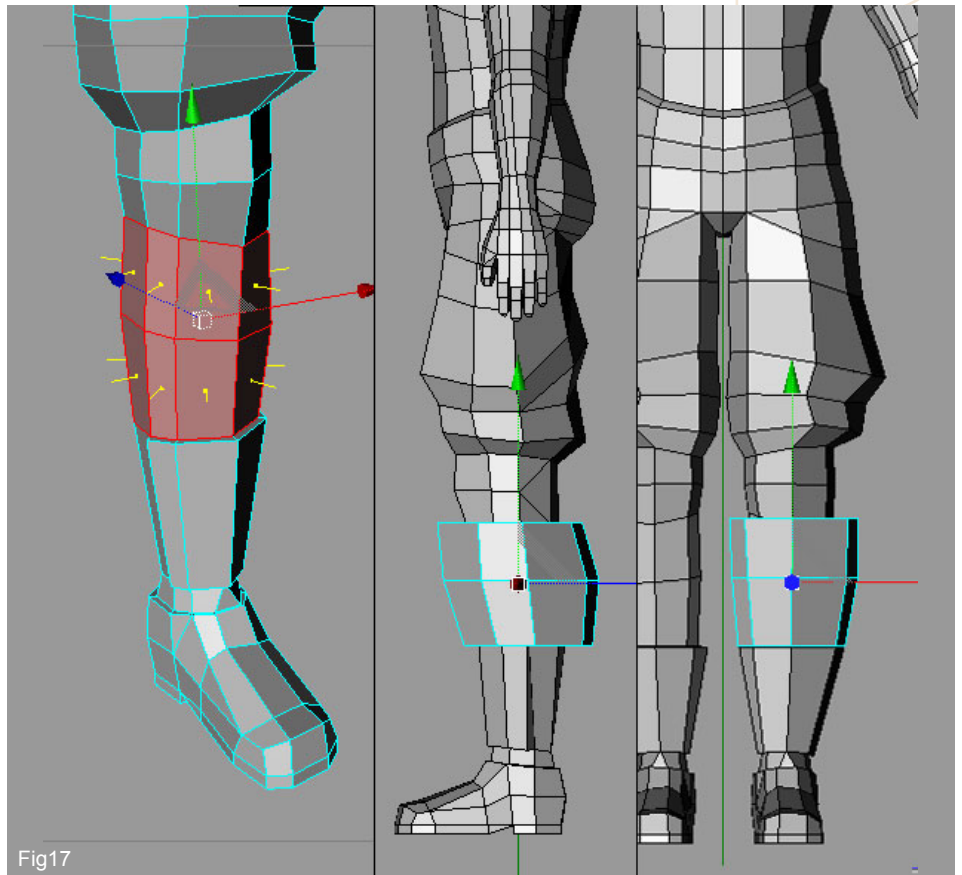

Fig17
17. For the Kneepad select the faces shown in red in Fig17 and split them from the body. This, as you already know, will create a new object which we can scale according to the one shown on the right.
18. You will notice that at the moment it has no depth (left of Fig17) so select all poly's and extrude them. Then build the inside using the "Bridge" tool. All that remains is to select the front two top poly's and do two extrusions scaling inwards slightly to form the upper part shown on the right.